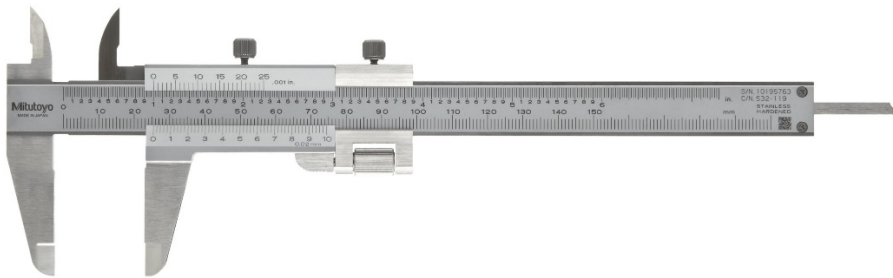

Figure 1. A vernier caliper.
- **Vernier Caliper:** Vernier caliper is a slide type caliper consists of a main scale and a vernier scale. It is used to perform length, depth, inside and outside measurements (Figure 1).